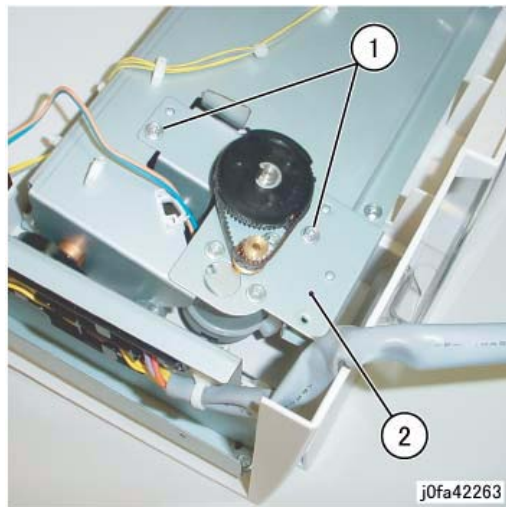

Figure 3 Removing the Stacker Motor Assembly (j0fa42263)
7. Remove the Stacker Motor Assembly. (Figure 3)